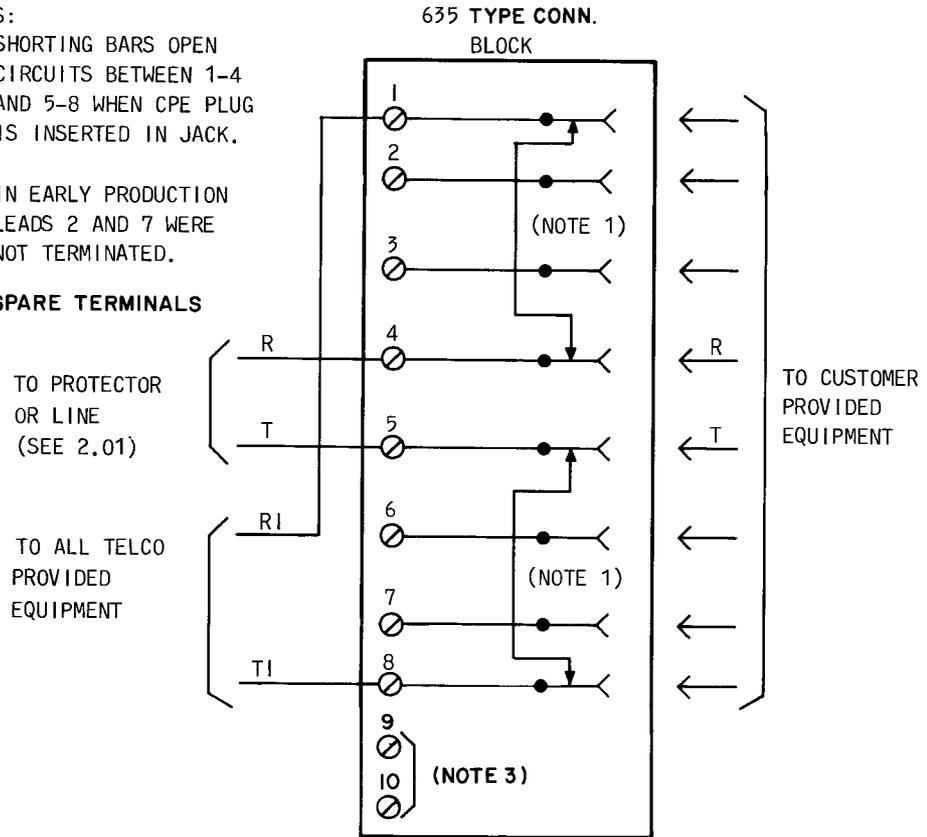

Fig. 4—Connections for USOC RJ31X
**2.02 USOC RJ31X:** This arrangement is wired so that when the CPE is plugged into the 635-type connecting block, the CPE is placed in series with the tip and ring of the line (Fig. 4). When the CPE plug is removed, tip and ring are cut through to the station equipment. **The 635-type connecting block must be wired in the circuit, ahead of ALL station equipment, to prevent false operation of the registered device and to cut off ALL station equipment from the line.** Typical usage is an alarm dialer.